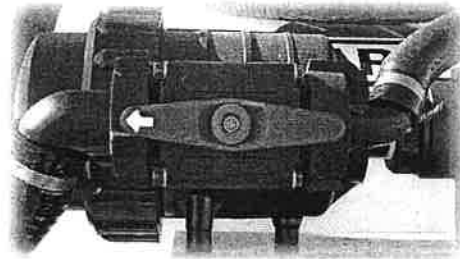

Fig 11
- 3 Turn the handle so that the directional valve (A Fig 10) on the filter, points to the large hose which flows into the main tank (Fig 11).